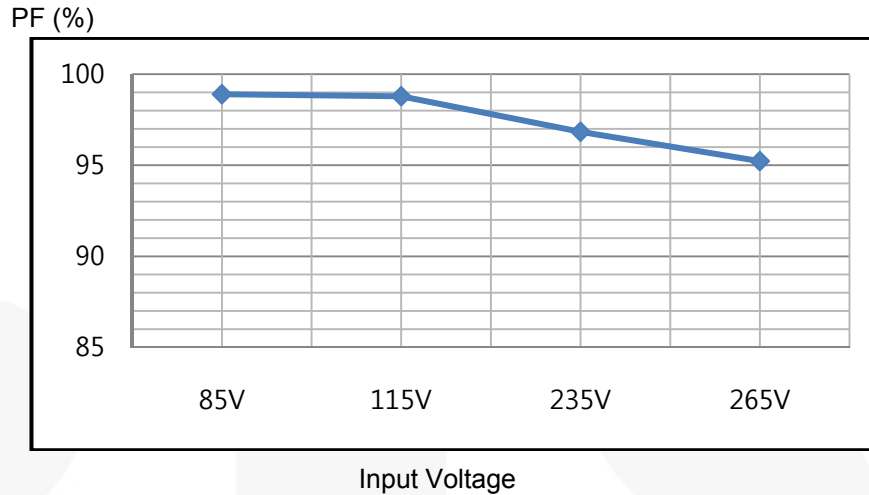

Figure 13. Power Factor Curve
8.2. Power Factor (PF)
Figure 13 shows at least 95% power factor (PF) is achievable with universal input condition at rated output LED load.